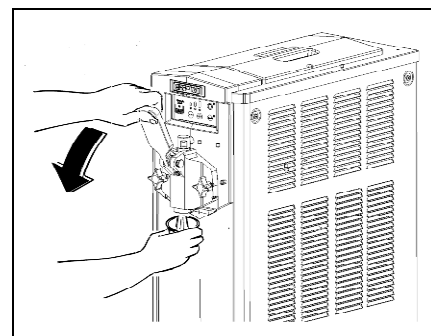

Fig. 15
- Empty the cylinder and repeat the same steps until the water coming out is clear (fig. 15).